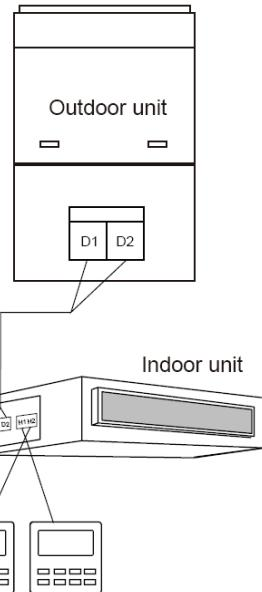

Fig. 5.4 Two wired controllers control
- (3) When two wired controllers control multiple indoor units, wired controller can be connected to any one indoor unit, while the connected indoor unit should be the same series indoor unit. The addresses of those two wired controllers should be different. Please refer to 5.2.3 parameter setting. The total quantity of indoor unit controlled by wired controller can't be more than 16 sets and all connected indoor units must be within the same indoor unit network. Wire controller must set quantity of group control indoor units. Please refer to 5.2.3 Parameters Setting.
- (4) When one (or two) wired controller(s) control(s) multiple indoor units at the same time, the controlled indoor unit's setting should be the same.
- (5) Wiring of wired controller and indoor unit network must be according to one of the four wiring method as shown in fig 5.3-5.6. As for the connection method shown in fig 5.4 and 5.6, there should be only one master wired controller (address is 01) and one slave wired controller (address 02). The quantity of wired controller can't exceed two.